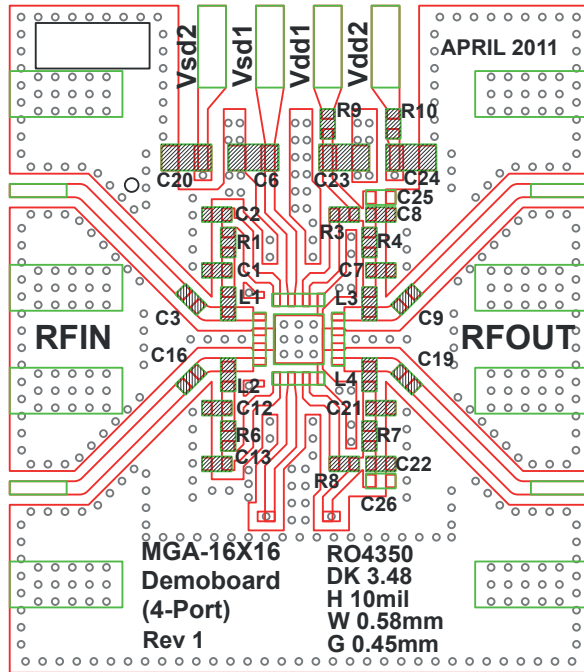
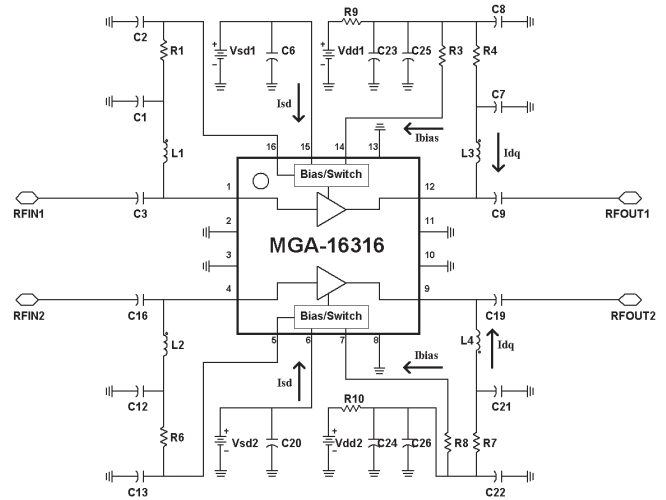

Figure 5. Demo Board Layout Diagram
Figure 6. Demo Board Schematic Diagram
4. Refer to Figure 6 for more details.
7. Bias to each LNA is adjustable using R3 and R8 (see Figure 6). Increasing R3 and R8 will reduce bias current (Idd) and vice-versa.
RF performance at  $T_A = 25^\circ\text{C}$ ,  $V_{dd} = 4.8\text{V}$ ,  $I_{dd} = 53\text{mA}$ , LNA mode, measured on demo board in Figure 5. Signal is CW unless stated otherwise. Application Test Circuit is shown in Figure 6 and Table 1. IIP3 test condition: FRF1-FRF2 = 1 MHz with input power of -20 dBm per tone.
2. Rbias is R3 and R8 from Figure 6.